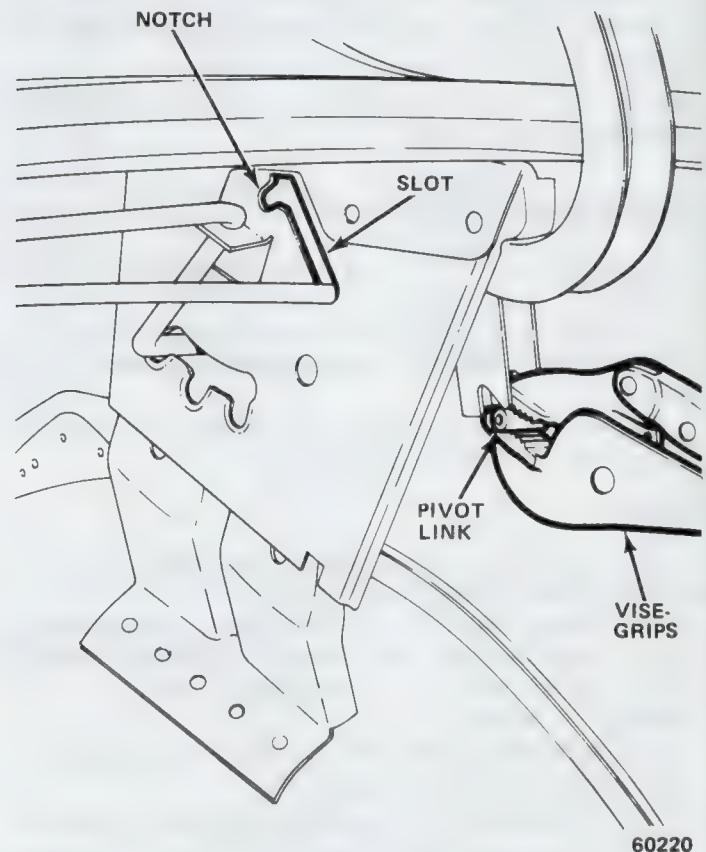

Fig. 3H-45 Torsion Rod Removal—Nonadjustable End
- (4) Attach Vise-Grip pliers to nonadjustable end of rod (fig. 3H-45).
(5) Push down and forward on Vise-Grip pliers, at same time disengaging rod from notch at top, then lower rod to bottom of vertical slot.
(6) Disengage and swing pivot link forward and allow rod to rest against hinge arm.
(7) Clamp Vise-Grip pliers to adjustable end of rod and pivot rod forward and out of notched retainer. At same time, flex rod forward and down to bypass retainer (fig. 3H-44).
(8) Slide rod toward opposite side.
(9) Unhook rod from hinge bracket and remove.